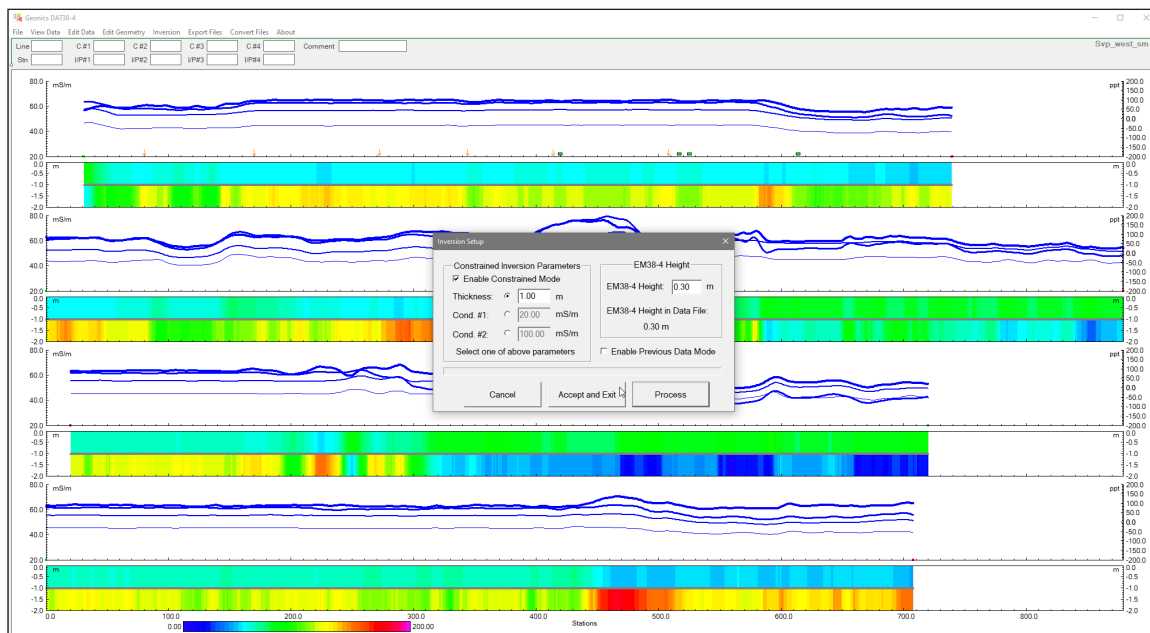

Figure 6.6 The DAT38-4 Inversion procedure completed, compare with above Figure 6.5.
- After processing, you can accept or cancel the new values (Figure 6.6).